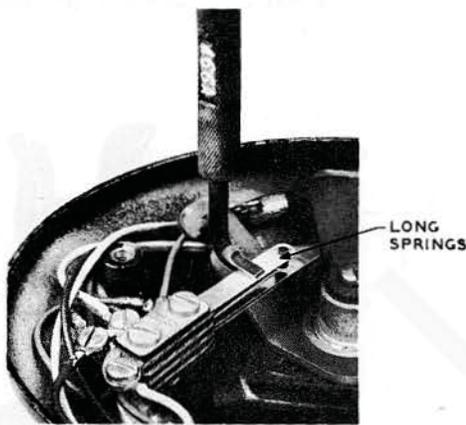

FIG. 4A—LONG SPRING CONTACT ADJUSTMENT
3.07 Contact springs should be adjusted with a 466A tool. When adjusting long springs, move the 466A tool along spring, bowing slightly to increase or decrease tension. Be careful not to injure contacts. (See Fig. 4A.)